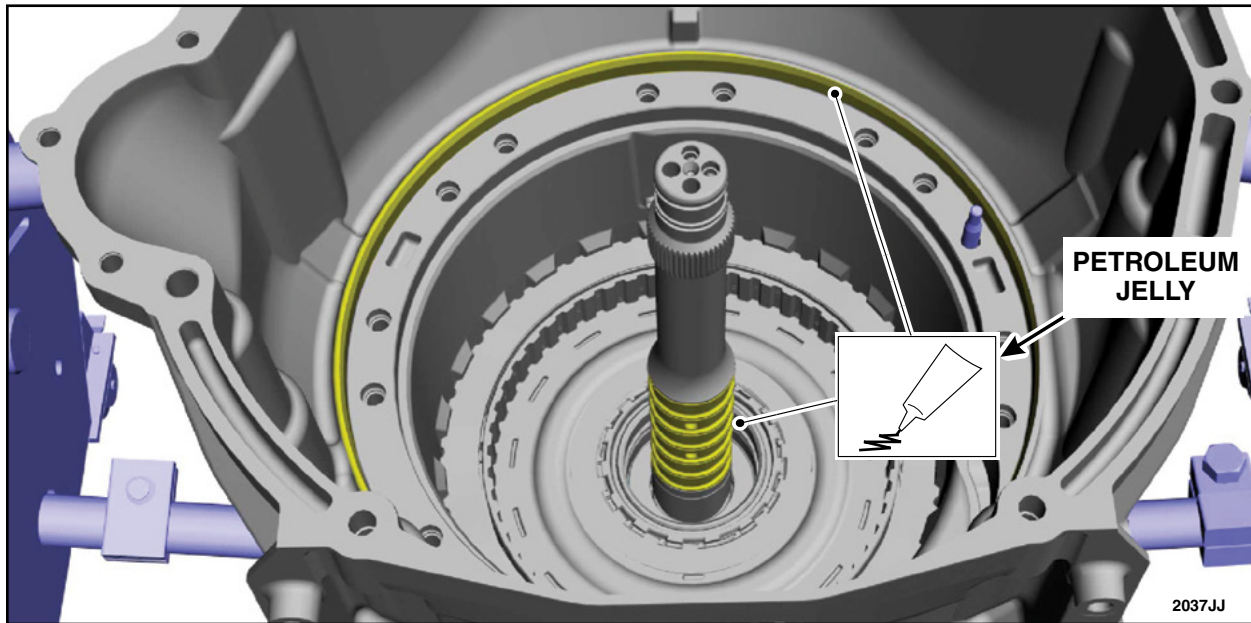

FIGURE 29
31. Lubricate the transmission case-to-front support sealing surface, and the Teflon® seals with petroleum jelly. See Figure 29.